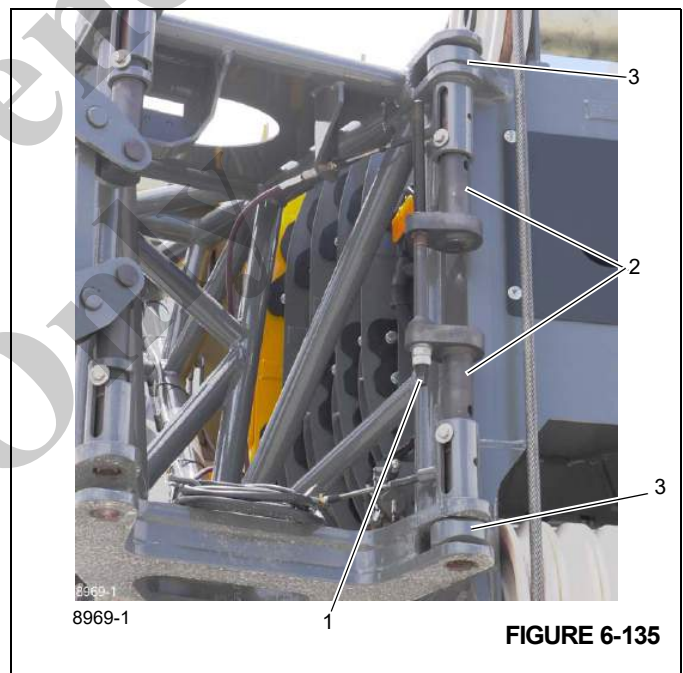

FIGURE 6-135
8. Using the impact driver, turn the jack screw (1), (Figure 6-135) clockwise until the pins (2), (Figure 6-135) are fully out of the lugs (3), (Figure 6-135).
5. On the right side of the boom nose, use the impact driver to turn the jack screw (1), (Figure 6-135) clockwise until the pins (2), (Figure 6-135) are fully out of the lugs (3), (Figure 6-135).